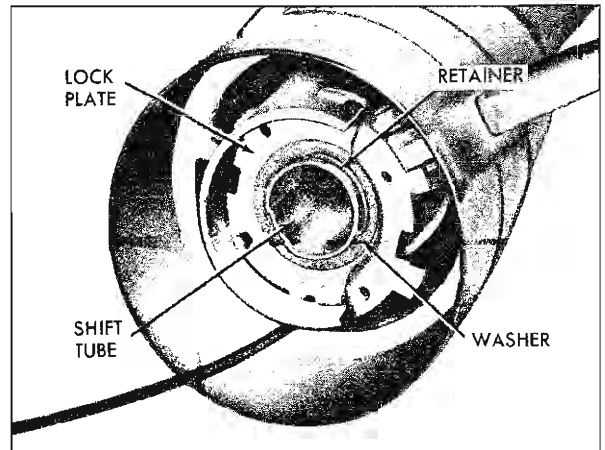

Fig. 31—Lock Plate Installed
- jacket, place the wave washer over the mast jacket and slide the lock plate into position so the tang on the locking plate engages the slot in the mast jacket (fig. 31).